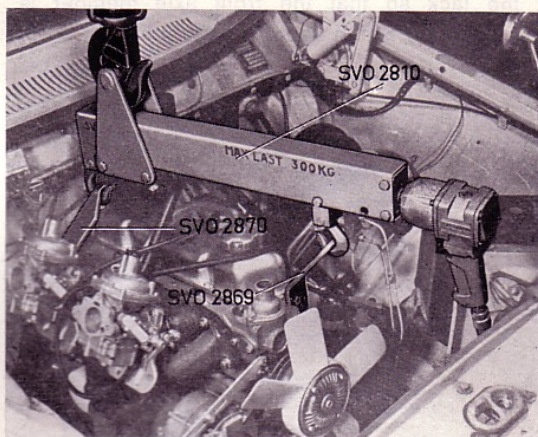
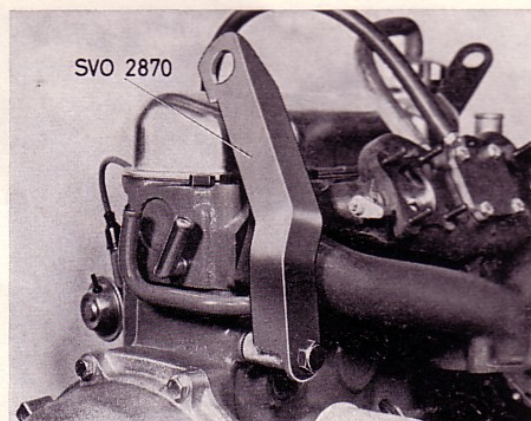
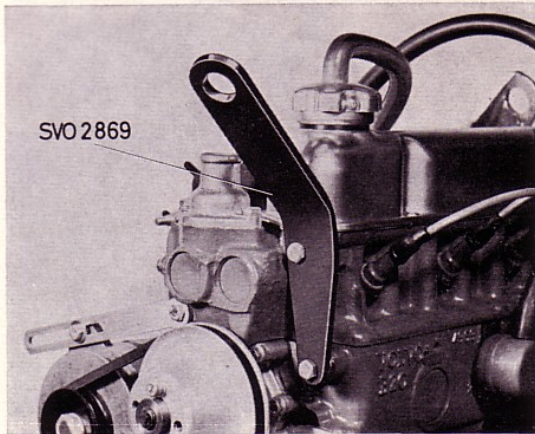

Fig. 13 Lifting out the engine
Fig. 14 Fitting lifting lug on engine rear end
Fig. 15. Fitting lifting lug on engine front end
20. Fit lifting lug SVO 2870 as shown in Fig. 14, and lifting lug SVO 2869 according to Fig. 15. The lifting lug is attached by 2 bolts 3/8" UNC-1"- resp. 1 1/4". Fit on lifting tool SVO 2810 according to Fig. 13 and lift out the engine.
1. Fit on the lifting lugs and beam according to Figs. 14, 15 and 13.
9. Adjust the clutch play according to Part 4 (41) "Adjusting the clutch pedal play".